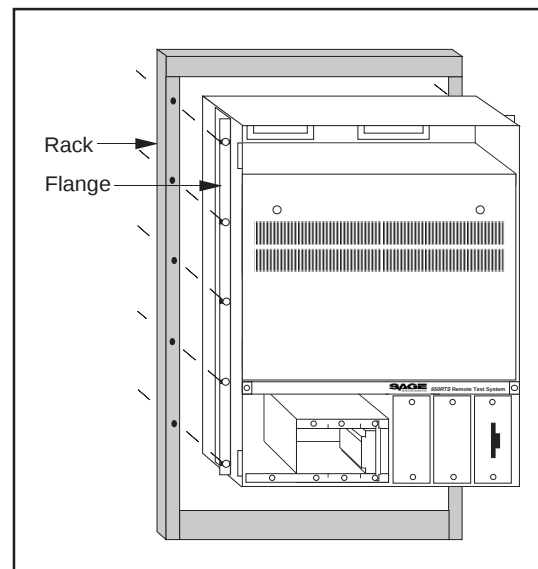

Figure 2-2
4. Attach the cabinet to the rack with appropriate hardware. (See **Figure 2-2**)